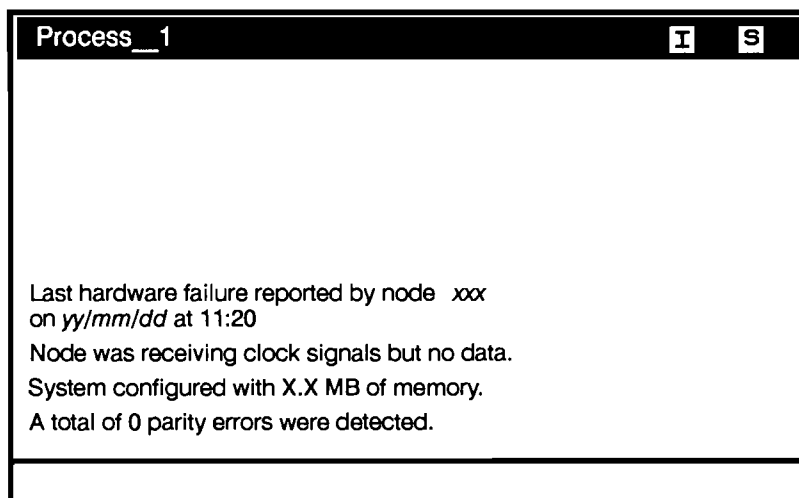

Figure 8-2. Network Communications Statistics
3. The screen now displays statistics about network communications. The last lines of the display contain the date and time of the last recorded network failure. Figure 8-2 shows a typical network reading regarding network failure.